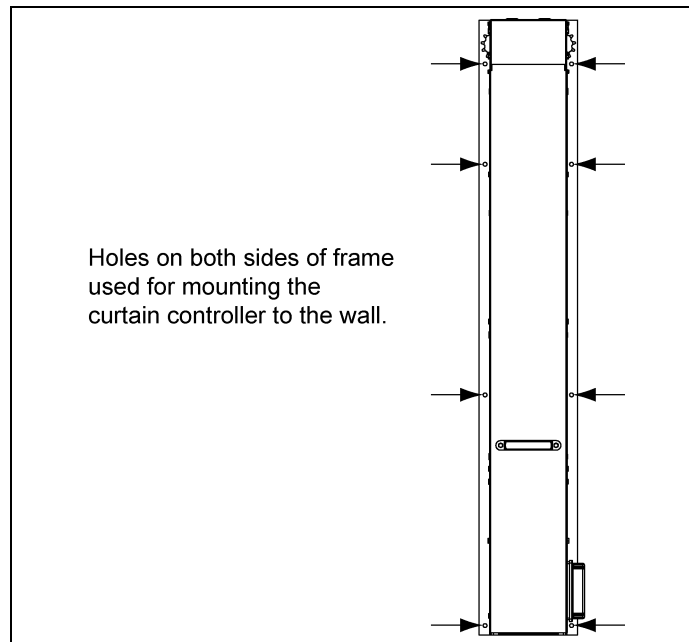

Figure 3C
5. Secure the machine to the wall by using the minimum six (6) 3/8" x 2" lag bolts provided. (See Figure 3C.)